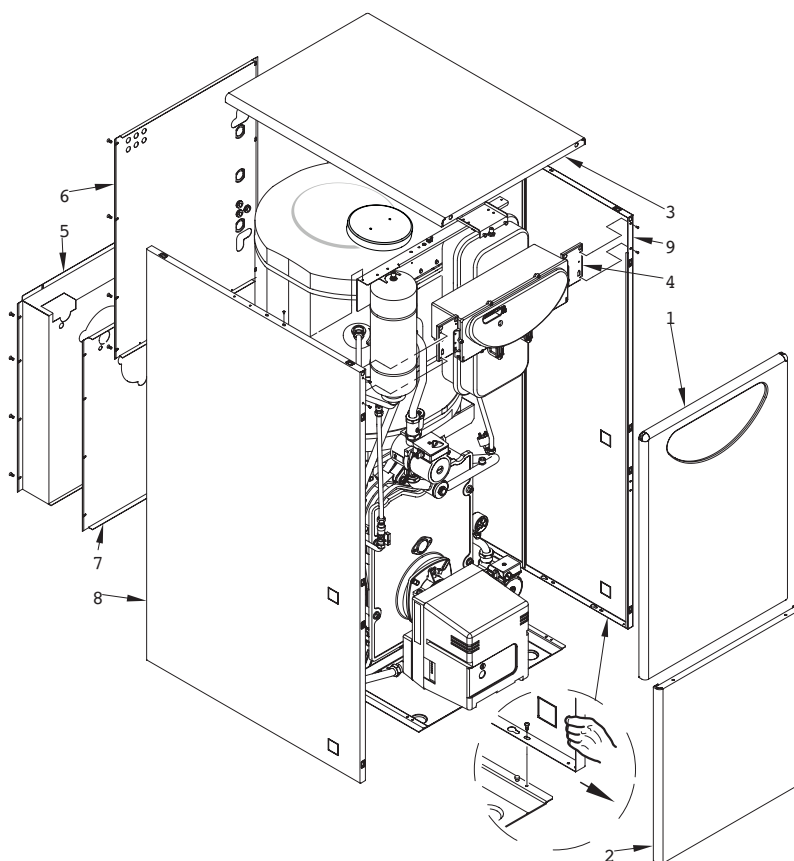

Fig. 13
4.4 DISASSEMBLY OF OUTER CASING (fig. 13)
steps shown in fig. 13.